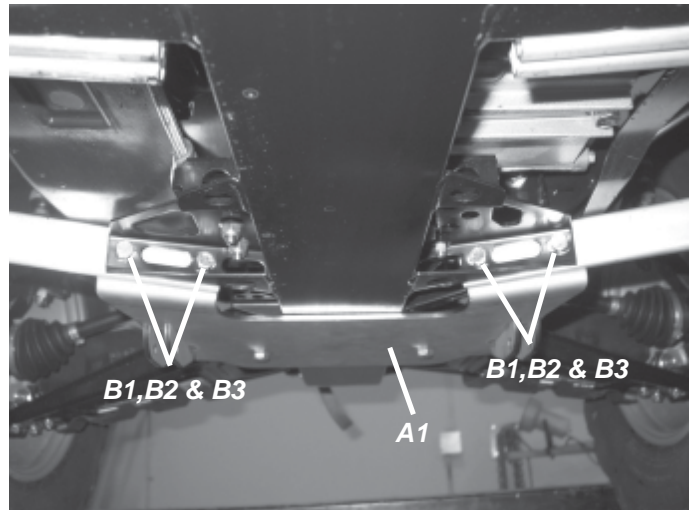

Figure 2 - Install Plow Mount
2. Place the plow mounting base (A1) into location as shown in figure 2. Secure with four 5/16-18 X 1 1/2 hex bolts (B1), 5/16 flat washers (B2) and 5/16-18 lock nuts (B3) all supplied in the plow mounting kit.